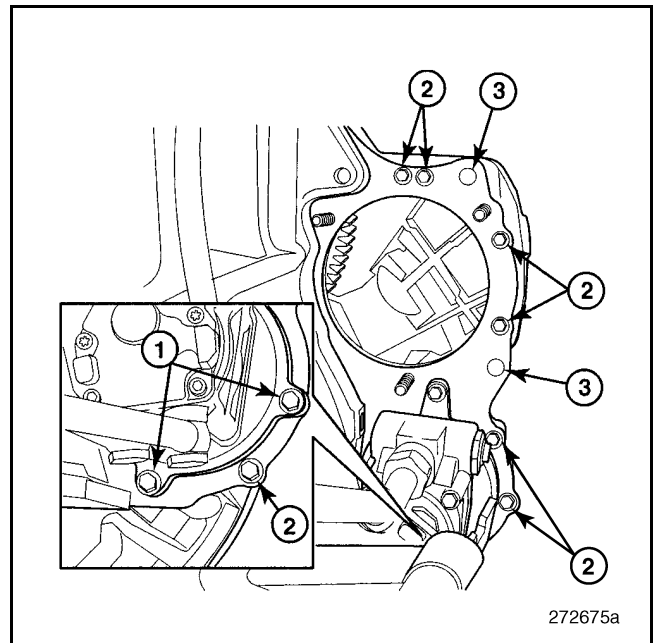

Figure 196 — Timing Gear Plate-to-Flywheel Housing Fasteners
1. Remove the flywheel housing fasteners (item 2 in Figure 196) located at the front of the timing gear plate.